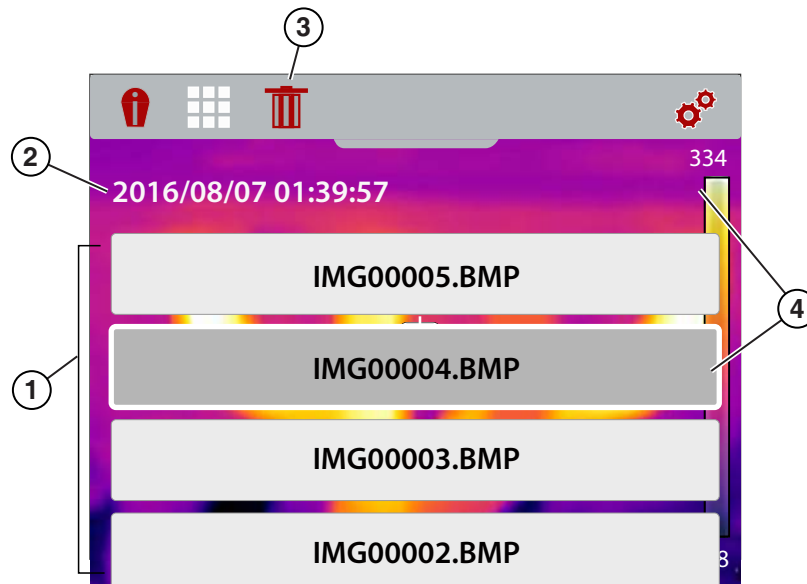

Figure 3-6 Image Gallery Icon
2. If necessary, use the **Left** and **Right** directional buttons to select the **Gallery** icon from the toolbar (Figure 3-6).